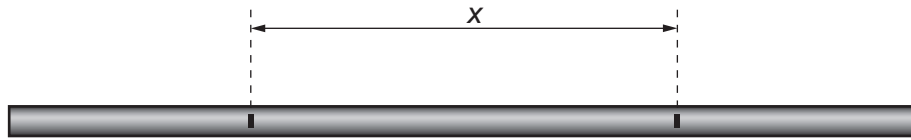

Fig. 2.2
- (b) (i) Make two **shallow** marks on the Plasticine cylinder as shown in Fig. 2.2. The distance x between the marks should be approximately 10 cm.